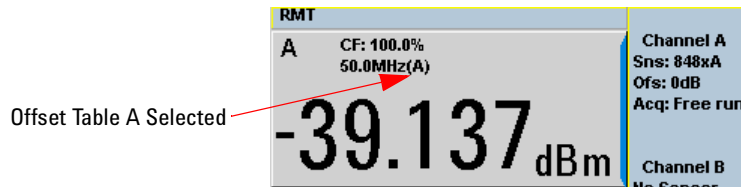

Figure 2-9 Frequency dependent offset indicator
- Press  again to display the measurement screen. Figure 2-9 shows which offset table is selected.